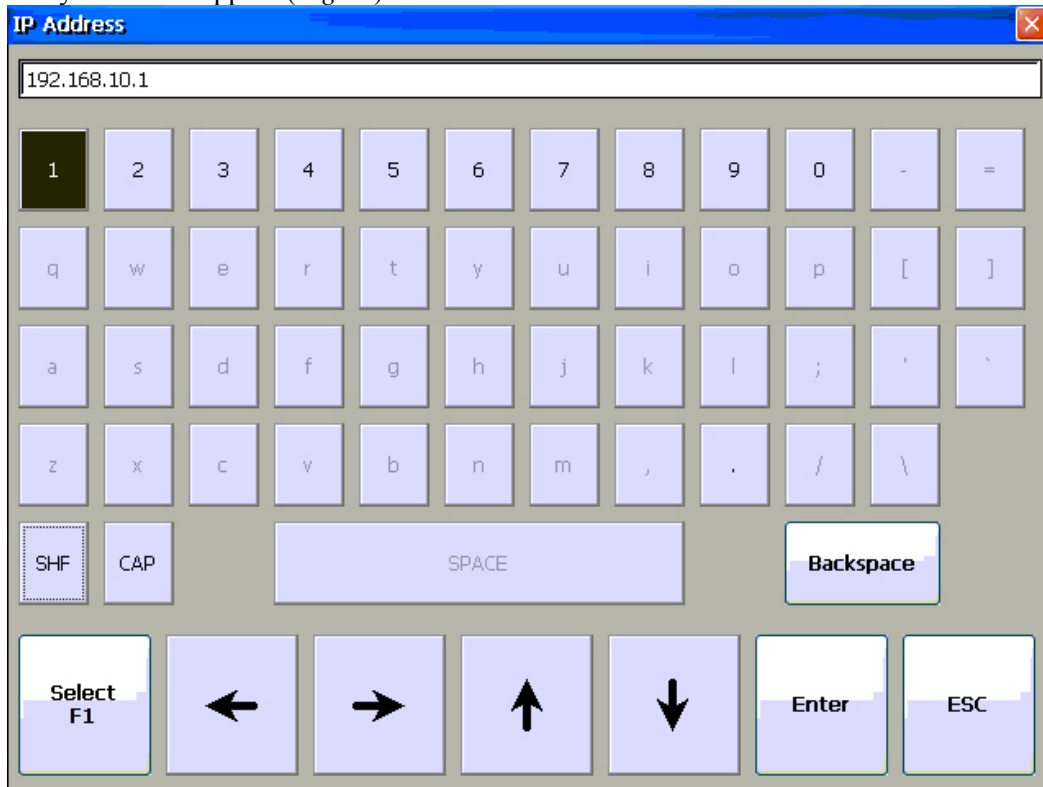

Fig 30
40. A keyboard will appear (*Fig 30*).